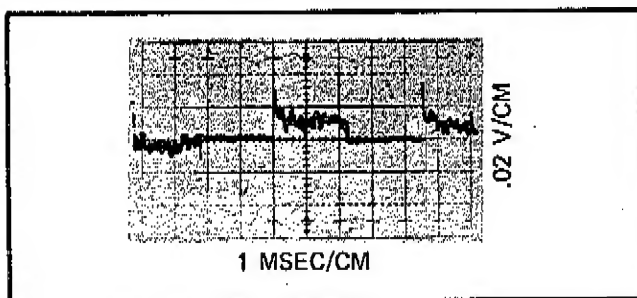

Figure 4-7. CHOPPER AMPLIFIER SIGNAL - TP10
- g. Compare display with the waveform shown in Figure 4-7, which indicates proper adjustment of spike compensation control R162. The signal is acceptable if the positive and negative spike amplitudes are less than 0.3 volts.